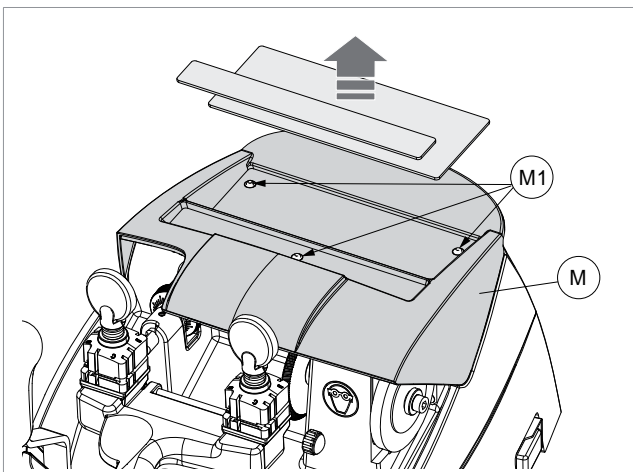

Fig. 49
- 1) Remove the two pads (Fig. 49).
- 18) Replace the top cover and secure with the 3 screws (M1) (Fig. 49).